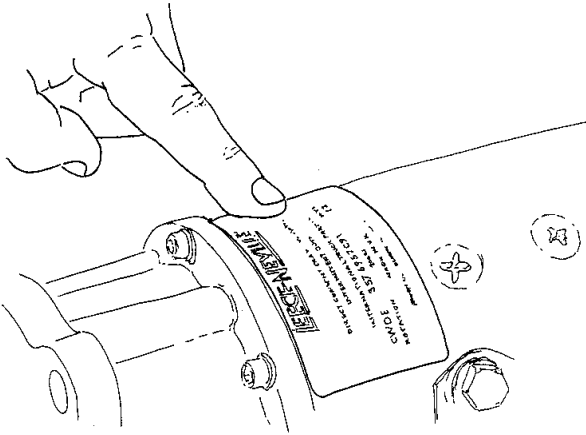

Figure 5 Attach New ID Label
9. Remove the starter identification label and replace with a new label from the service kit. Refer to Table 2 for the correct label to use for the starter motor being serviced (Figure 5).